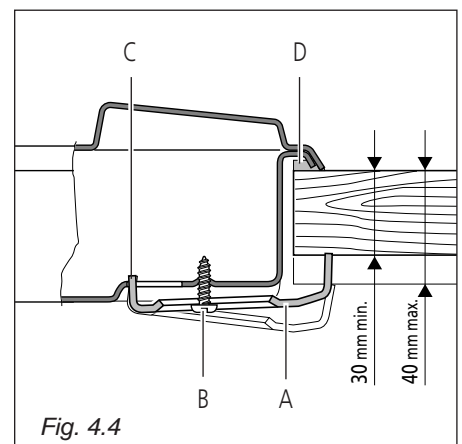

Fig. 4.4
- ✓ Stretch gasket "D" over the edge of the hole made, being careful to overlay the junction edges (fig. 4.4).
- ✓ Put tabs "A"; into place, tooth "C" of the tabs should go into the hole (fig. 4.4).
- ✓ Tighten screws "B" until the cooktop is completely secured (fig. 4.4).